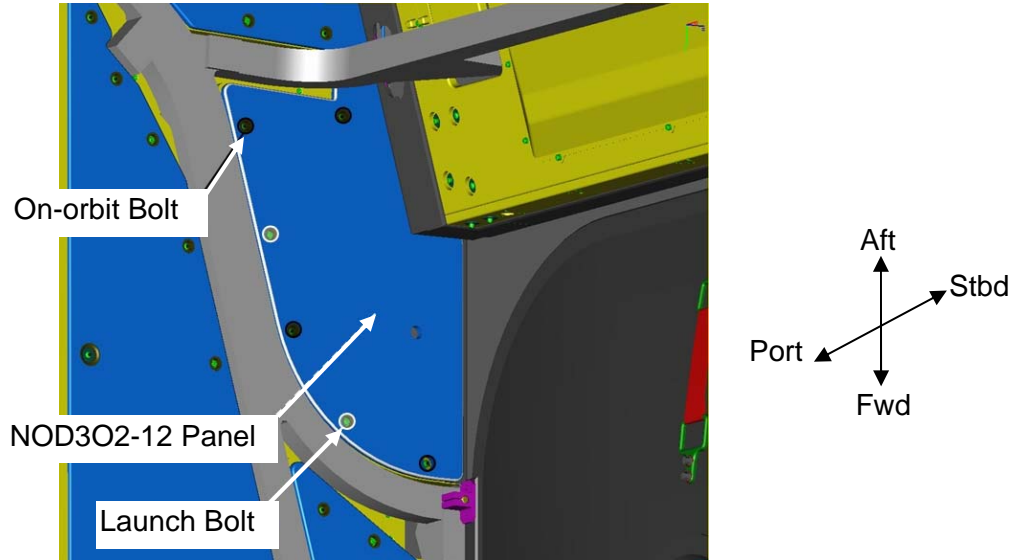

Figure 3.- Launch Bolts on NOD3O2-12 Closeout Panel.
- 1.2 Remove Closeout Panel NOD3O2-12 Launch Bolts (two), fasteners (four) (Driver Handle; 5/32" Hex Head, 1/4" Drive). Temporarily stow. Refer to Figure 3.